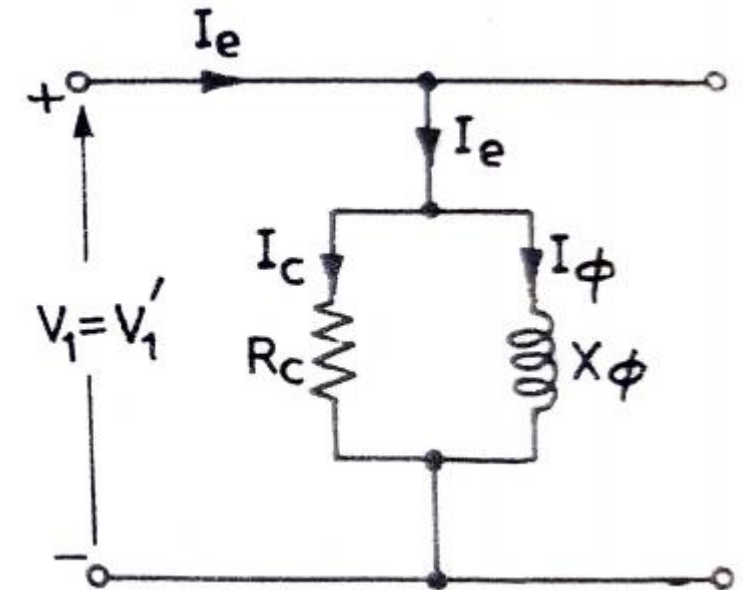

Fig. 8.18 (b).
- ✓ The circuit diagram for performing open circuit test on a single phase transformer is shown in **Fig. 8.18 (a)**.
- Fig. 8.18 (a).**
- ✓ The equivalent circuit of **Fig. 8.15** (e) gets modified and is shown in **Fig. 8.18** (b).